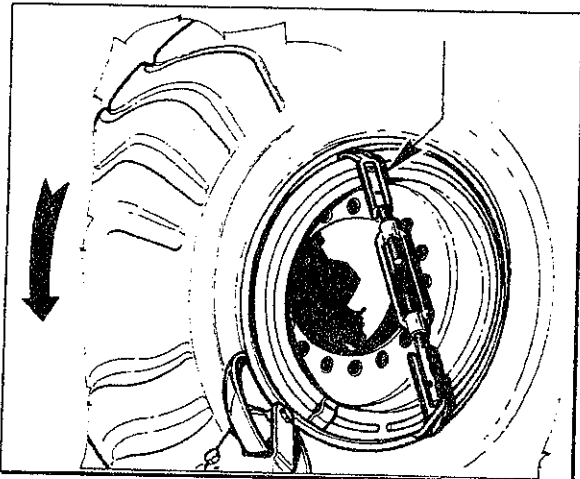

Fig.39
2. Position the tool close to the rim edge (Fig.39). When the lock ring is stuck to the bead, (on the O.T.R. tires) to make it to break the bead, it is necessary to hold it to the rim with the appropriate clamp #4007611 (on request).